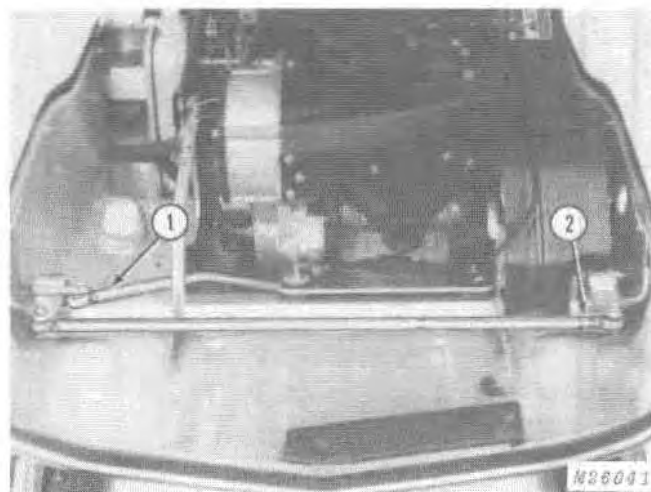

Fig. 12-Tie Rod and Drag Link
2. Install new tie rod and drag link. Stake end of drag link to the steering post and stake end of tie rod to the left-hand steering arm, Fig. 12.